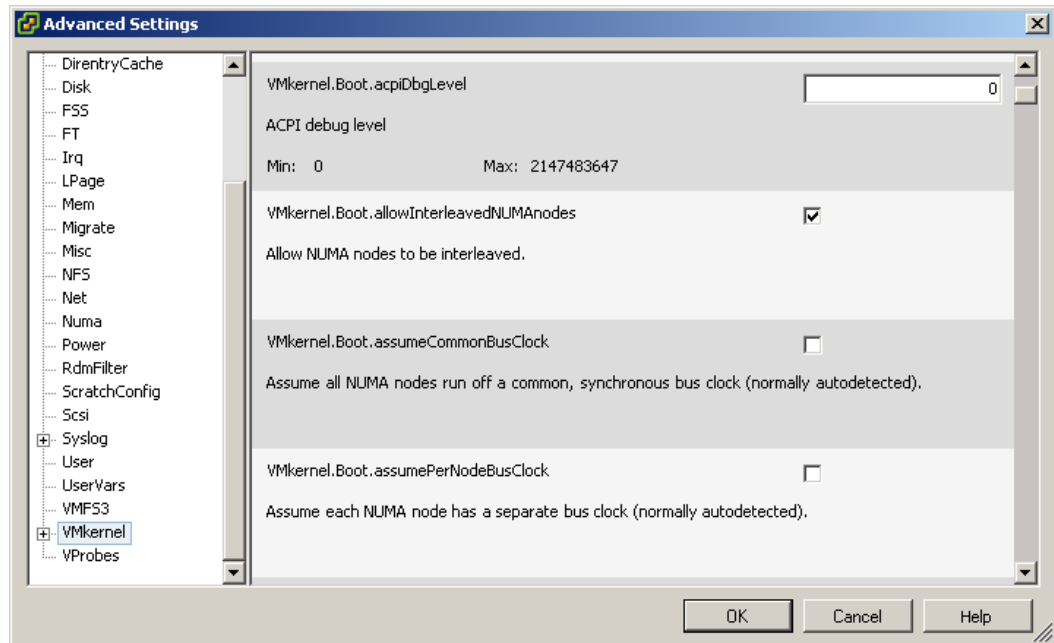

Figure 6-65 Editing the VMkernel settings in vSphere Client
16. Click **VMkernel** in the left pane and select **VMkernel.Boot.allowInterleavedNUMAnodes**, as shown in Figure 6-65 on page 282. Click **OK** when finished. This step concludes the installation process.